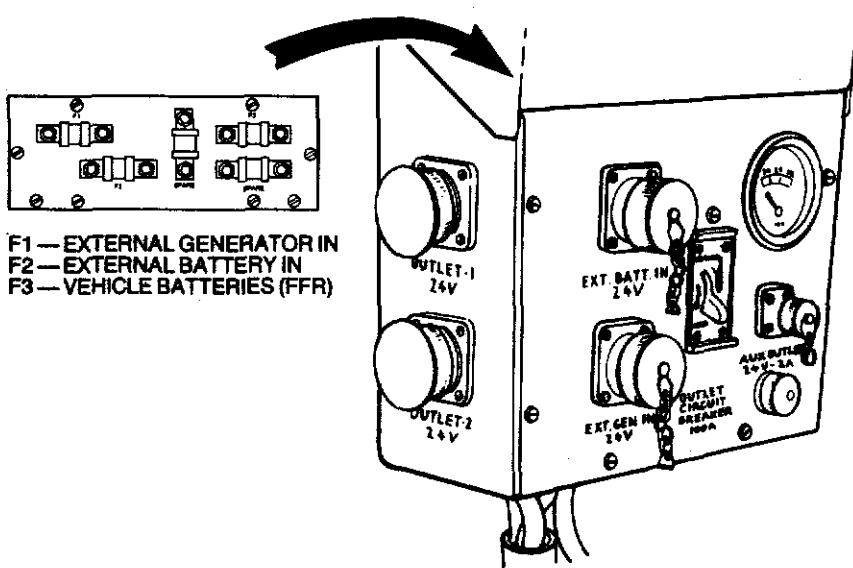

Figure 1-17 Distribution box
95. Distribution box (Fig. 1-17)